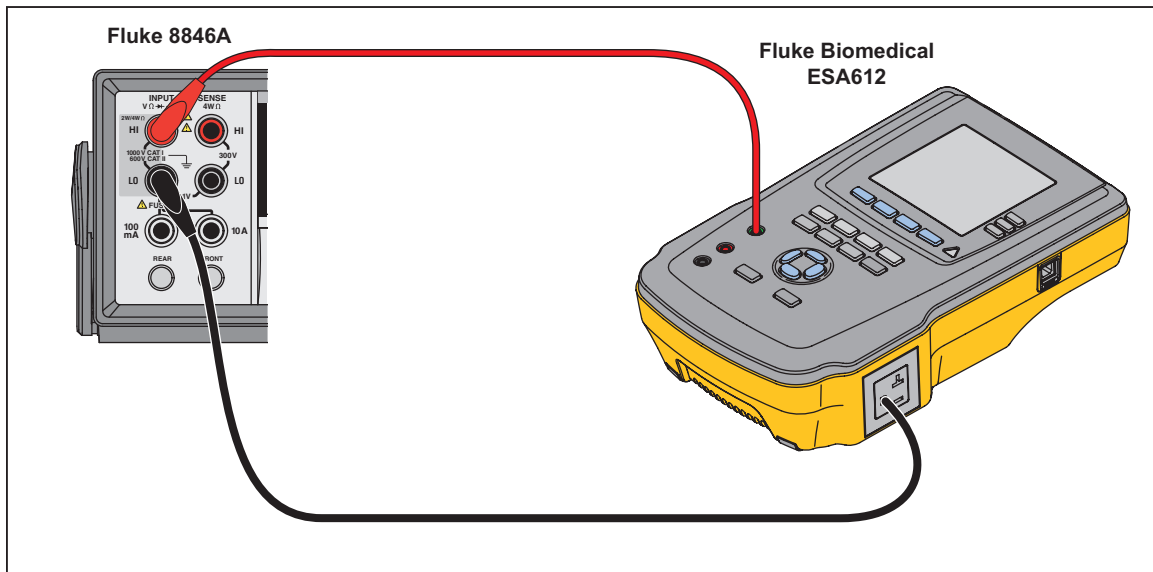

Figure 3-2. Electrical Outlet Ground to NULL Jack Resistance
1. Connect the DMM Input (+) to the NULL Jack and the Input (-) to the EO Ground as shown in Figure 3-2. Select the 1 G Ω range on the DMM.